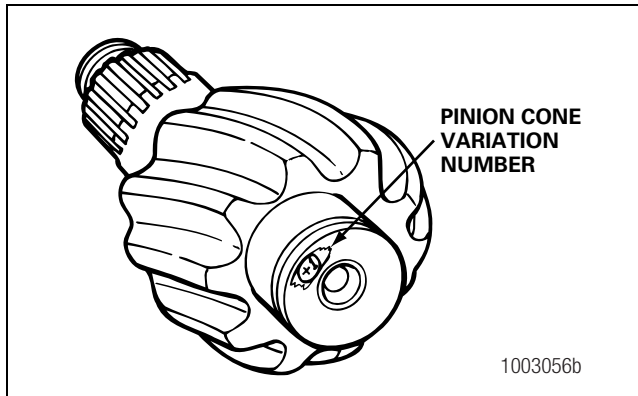

Figure 5.21
- Find the pinion cone (PC) variation number on the drive pinion you'll replace. Figure 5.21. Record the number. The pinion cone number can be one of the following values.